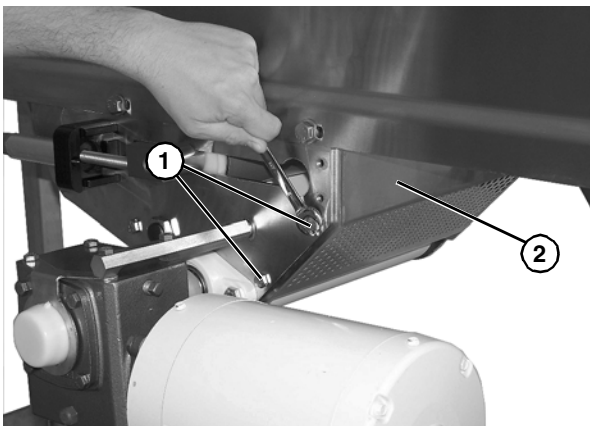

Figure 74
5. Remove two screws (**Figure 74, item 1**) from each side of center drive and remove stationary guard assembly (**Figure 74, item 2**).